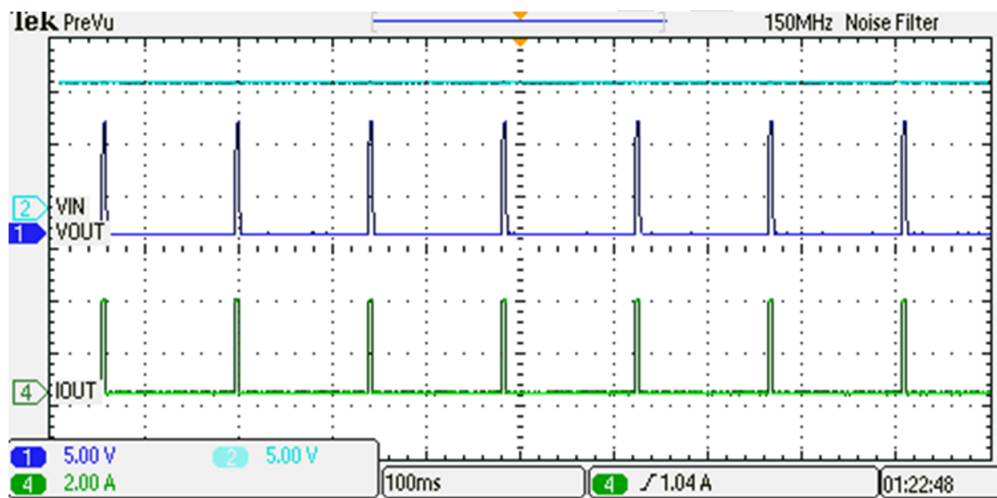
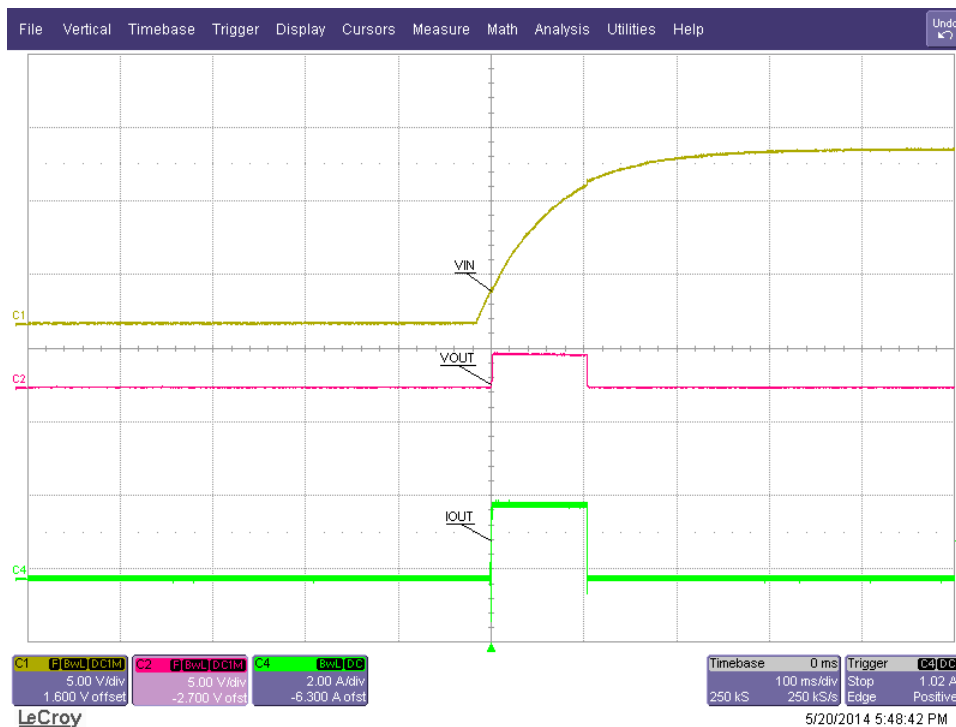

Figure 5. J4 = LO Current Limit Test Auto Retry (CH1)
Figure 6. J9 = “No Jumper” Current Limit Test with Latch (CH2)
NOTE: Since the pulse width of current can vary significantly with the VIN ramp rate, which varies from one power supply to another, do **not** worry about matching the pulse widths of Figure 5 and Figure 6.
- Set the output load at $1.0 \Omega \pm 0.1 \Omega$ on CH1 and then enable the load. Turn on the VIN1 power supply. Verify that the input current is limited as per the setting in Table 10. Verify the device is in auto-retry mode as shown in Figure 5 and FLTb1 RED LED (D2) turns on and off.
- Set the output load at $1.0 \Omega \pm 0.1 \Omega$ on CH2 and then enable the load. Turn on the VIN2 power supply and verify that the input current is limited as per the setting in Table 10. Also verify the device is in latched-off mode and FLTb1 RED LED (D2) turns ON as shown in Figure 6.